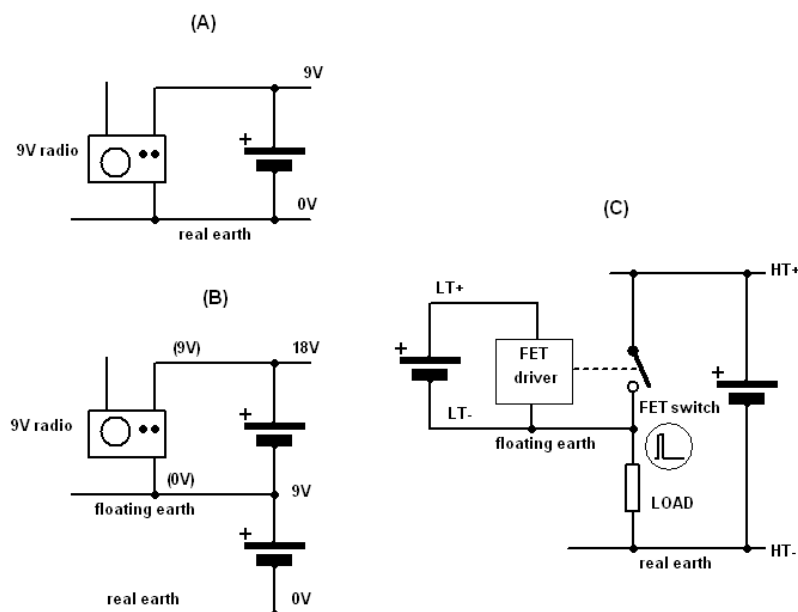

Figure 5.5. The floating earth concept
The floating earth concept can be confusing at first, and as it is a core part of the PUWMA circuit it's worth spending a little time on an explanation using a simple illustration. Consider Figure 5.5 (A) below. This shows a 9V transistor radio powered from a 9V battery, where the 0V side is connected to earth. Now look at 5.5(B). Here we have the same radio powered by the same battery, but this time we have added another battery in series. The radio's 0V line is now at 9V with respect to real earth, but as far as the radio is concerned, nothing has changed. The radio's 0V is now a floating earth. Figure 5.5(C) takes the same concept and applies it to a representation of what is happening in PUWMA. Instead of the radio we now have a FET driver, with its own LT supply. The FET driver rapidly switches the FET on and off, rather like a simple toggle switch. When the switch is open, LT- is at earth potential (HT-) because there is no voltage drop across the load as no current flows. When the switch is closed, HT+ is applied to the load, raising the level of the floating earth LT- and also LT+. The FET driver knows nothing of this because the LT voltage i.e. the potential difference between LT- and LT+ doesn't change. (The output pulse width is determined by the time during which the switch is closed, and the frequency by the number of open/close operations per second).